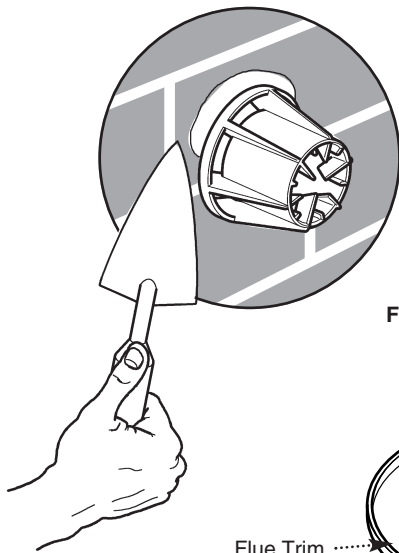

Fig. 35
3. Make good between the wall and the air duct outside the building if the internal fitting kit has not been used (Fig. 35).